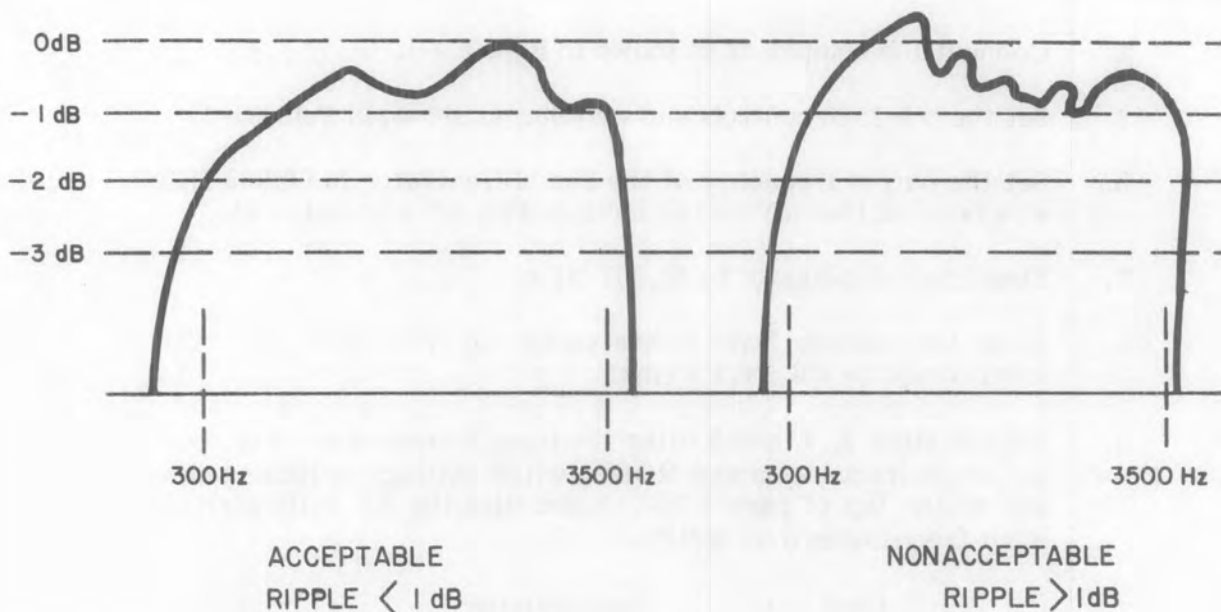

Figure 4-2. Examples of Acceptable and Non-Acceptable Ripple Levels
- Slowly sweep the Signal Generator from 0.020300 to 0.023500 MHz (300 Hz to 3500 Hz audio out), noting maximum and minimum points of inflection within the passband. This ripple should be no greater than 1.0 dB p-p. See Figure 4-2 for examples of acceptable and non-acceptable ripple levels.